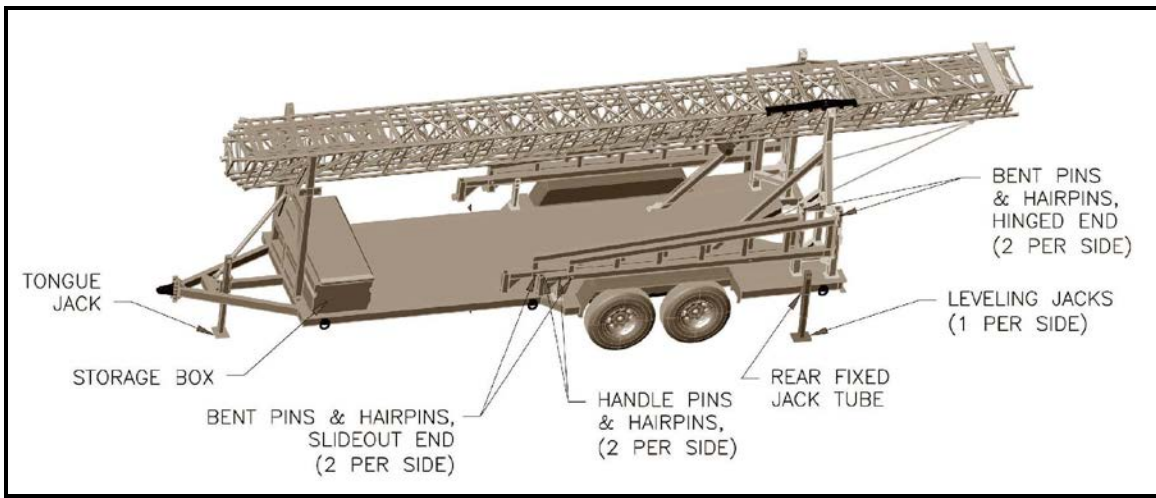

Fig. 5 Stowed Outrigger Details
1. **First**, remove 2 leveling jacks from storage box and install jacks on the rear fixed jack tubes of the trailer, one on the curbside and one on the roadside (*see Fig. 5*). **NOTE:** This must *always* be done first (before swinging outriggers into position) to properly support the trailer frame while swinging the outriggers into the deployment position.
2. Remove bent pins & hairpins from hinged end of all 4 outriggers (*see Fig. 5*). The 4 outriggers consist of 2 on each curbside and roadside of the trailer.
3. Remove handle pins & hairpins from forward end of all 4 outriggers (*see Fig. 5*).
3. Remove bent pins & hairpins from hinged end of all 4 outriggers (*see Fig. 5*). The 4 outriggers consist of 2 on each curbside and roadside of the trailer.